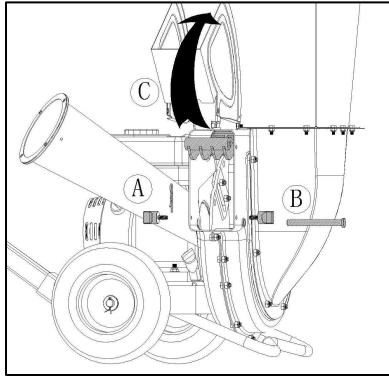

Figure 1-1
4. When the area is cleaned, pivot the shredder screen downward and re-secure with the clevis pin and hairpin clip removed earlier. See figure 1-1
3. a. Remove the chipper chute support brace from the frame by removing the two hex bolts and saddle washers which secure it. See Figure 1-1.
- b. Remove the chipper chute by removing three hex nuts and washers which secure it to the impeller housing. See Figure 1-1